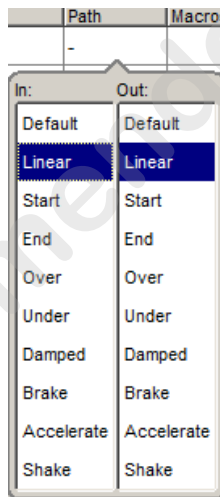

Figure 20.3. Selecting a Path in a Cuelist Window
2. Choose a path from the displayed list; see Figure 20.3, “Selecting a Path in a Cuelist Window”.